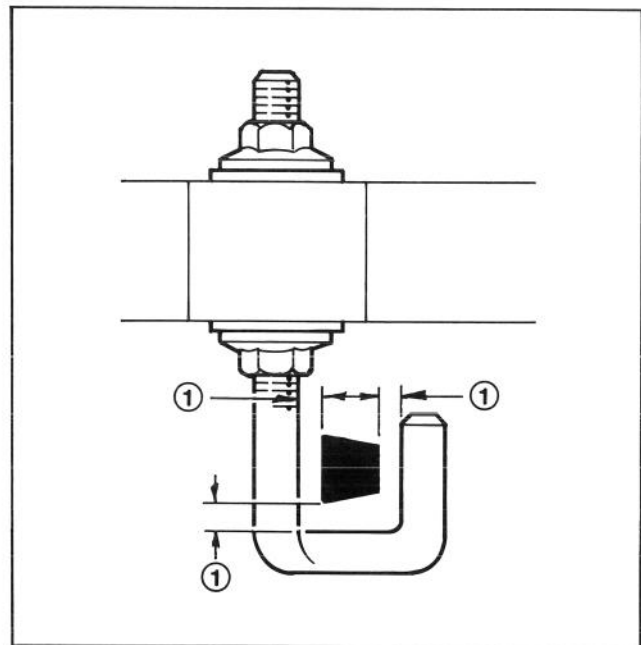

Figure 4B
7. Loosen flange nuts and adjust J-belt guide so there is $1/16$ " - $1/8$ " clearance between guide and bottom and sides of belt when deck is in highest height-of-cut (Fig. 4B). Tighten flange nuts and re-check adjustment.